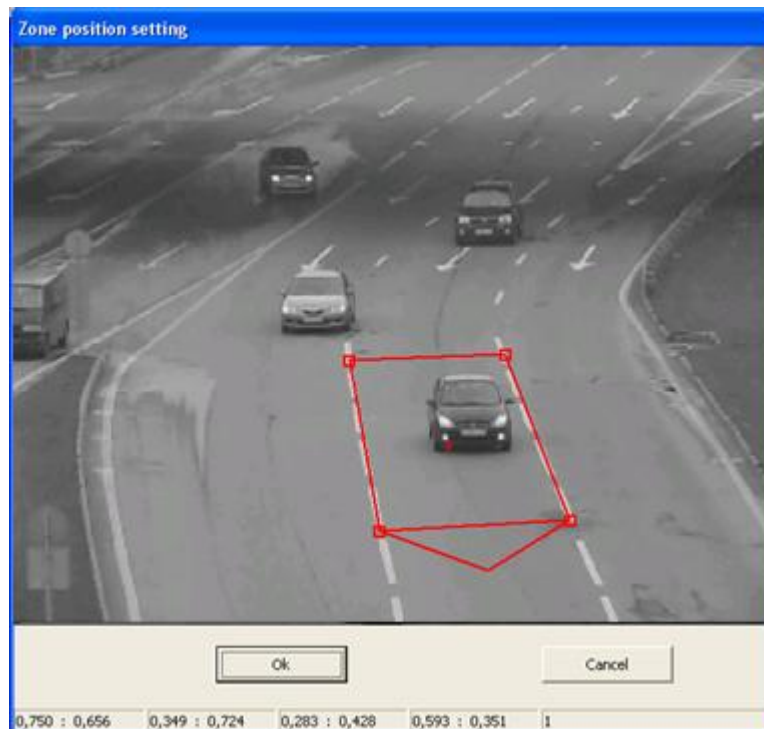

Fig. 7.6-5 Zone positioning setup
5. Zone positioning setting dialog window will open in result (Fig. 7.6-5)
7. Click OK to save the changes and close the dialog window Zone position setting (Fig. 7.6-5)